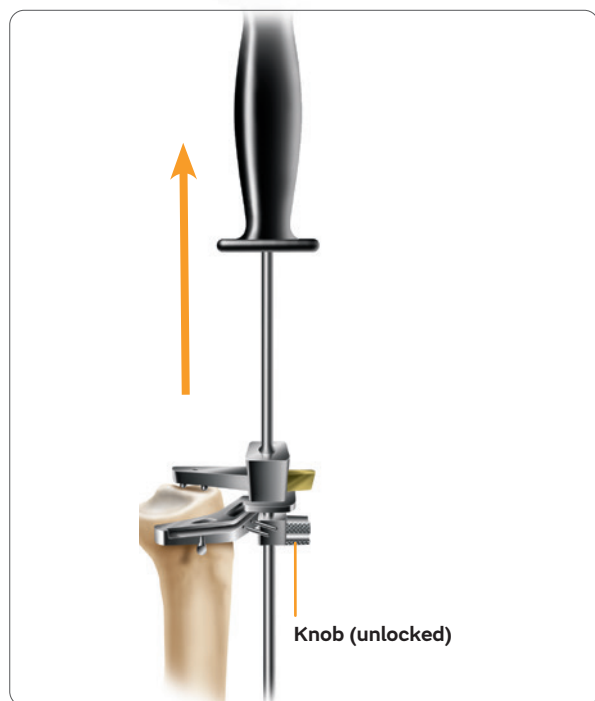

Figure 16
- a. For the assembly with spiked rod, release the cam at the top of the alignment tube and use the slap hammer to remove the spiked fixation rod (**Figure 16**) after loosening the thumbscrew.